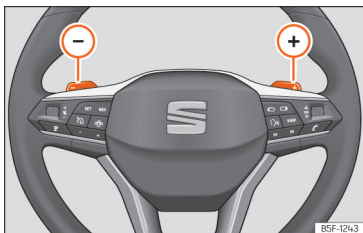

Fig. 103 Steering wheel: automatic gearbox levers
- Press the (+) gear shift paddle to change up a gear »» Fig. 103.